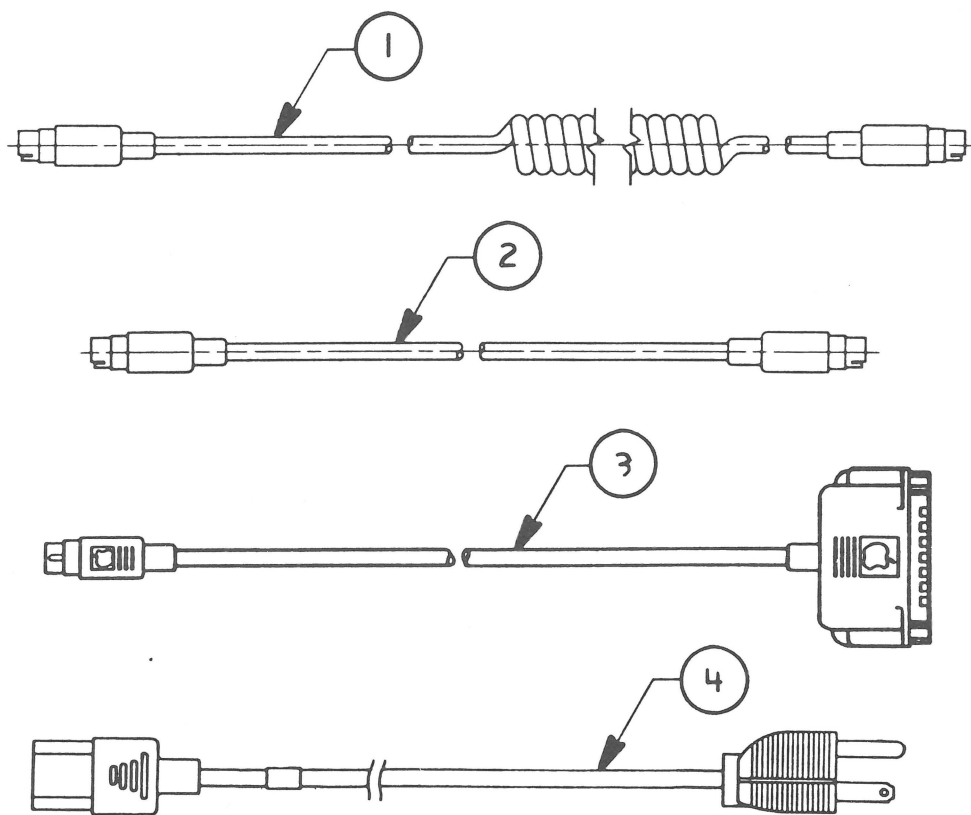

FIGURE 5
□ APPLE IIcs – CABLES (Figure 5)